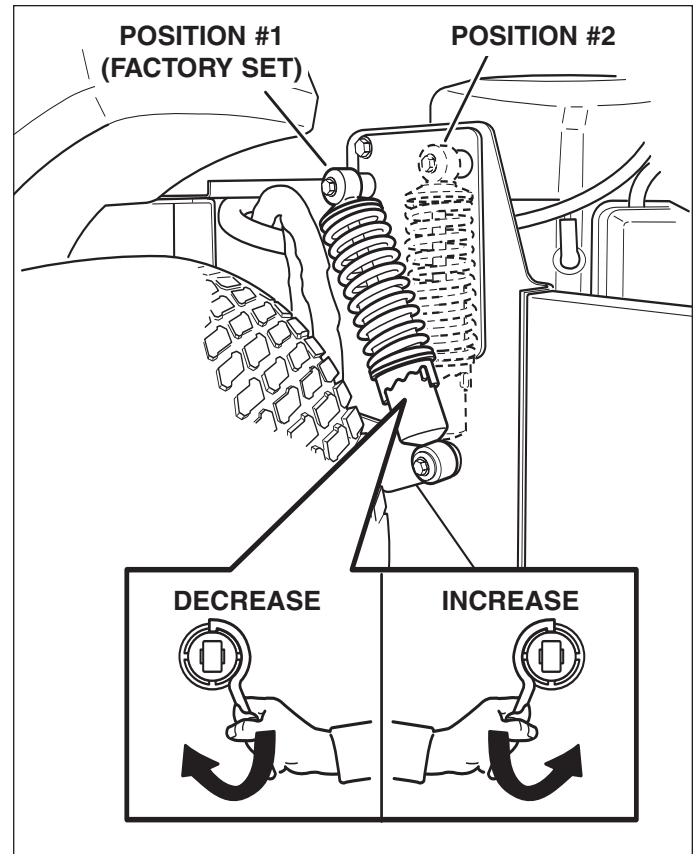

Figure 25. Rear Suspension Adjustments
4. See Figure 25. Using the supplied spanner wrench (p/n 22853), insert the tip of the wrench into the notch in the pre-load adjuster. While holding the wrench in place with one hand, turn COUNTER-CLOCKWISE to increase the pre-load, turn CLOCKWISE to decrease the pre-load. Make sure both shocks are set to the same amount of pre-load.
4. Remove the upper shock mounting hardware and pivot the shock the position #2 (see Figure 25). Adjust the jack to align the shock mounts to the shocks.